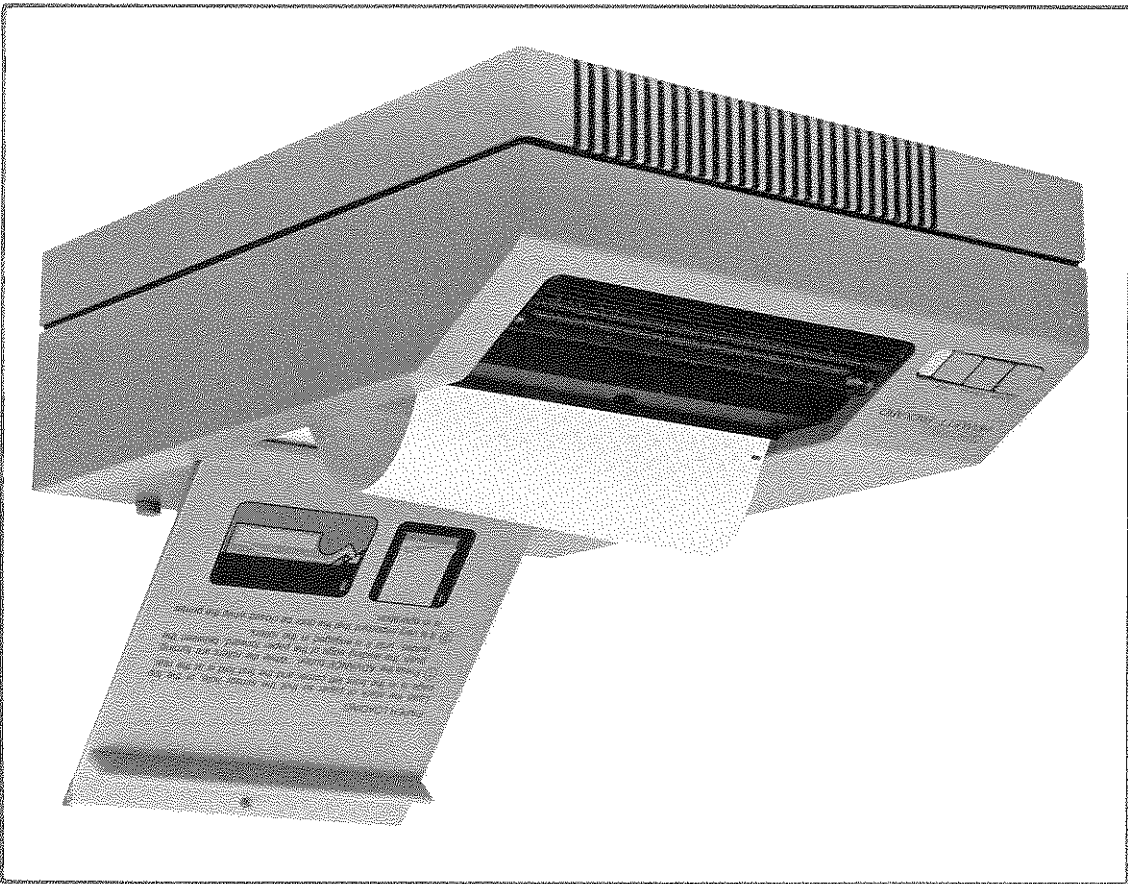

Figure 2-5: Loading Paper
4. Load the new stack of paper (with the cardboard sheet on the bottom) into the printer's paper tray with the loose edge of the paper towards the front of printer and the first perforated fold toward the rear. The small hole in the paper should be on the left side (when facing the printer). See Figure 2-5 "Loading Paper".